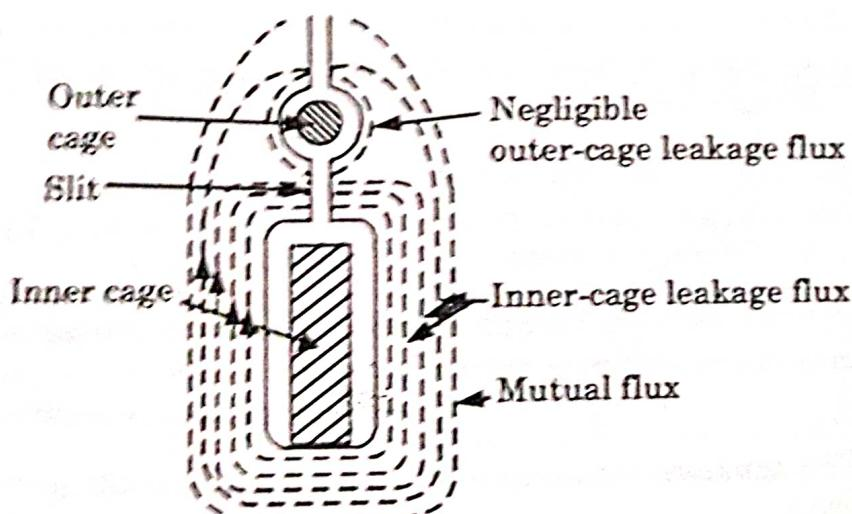

**Fig. 4.5.1. Deep-bar cage rotor bar.**
1. Fig. 4.5.1 shows a cage rotor with deep and narrow bars.
3. Fig. 4.5.1 shows three such layers A, B and C. It is seen that the top most layer element A is linked with minimum leakage flux and, therefore, its leakage inductance is minimum.